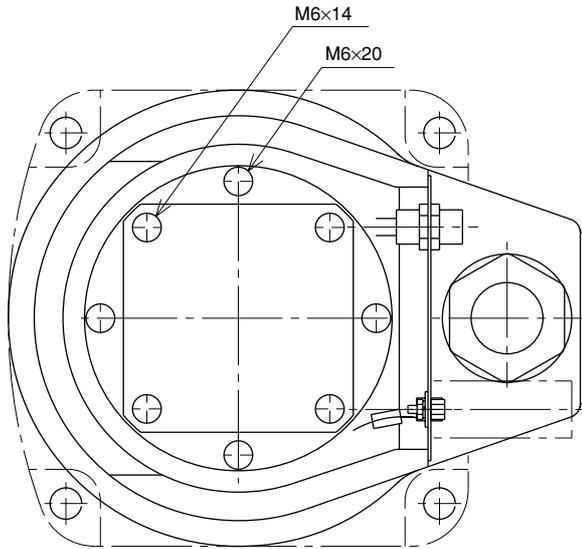

Fig. 5-18
- 7) Remove the bolts (M6×20L, 4 pieces) securing the motor holder by using the ratchet handle, M6 hexagonal socket, socket adapter and extension bar. (See Fig. 5-18.)
- 9) Remove the bolts (M6×14L, 4 pieces) securing the motor and remove the motor from the motor holder. (See Fig. 5-18.)
- 19) Fit the O-ring to the motor and secure the motor to the motor holder with the bolts (M6×14L, 4 pieces) you removed earlier. (See Fig. 5-18 and Fig. 5-22.)
- 20) Fit a new O-ring coated with harmonic grease into the O-ring groove on the motor holder and tighten the bolts (M6×20L, 4 pieces) you removed earlier to temporarily secure the motor holder to the base. (See Fig. 5-18.)